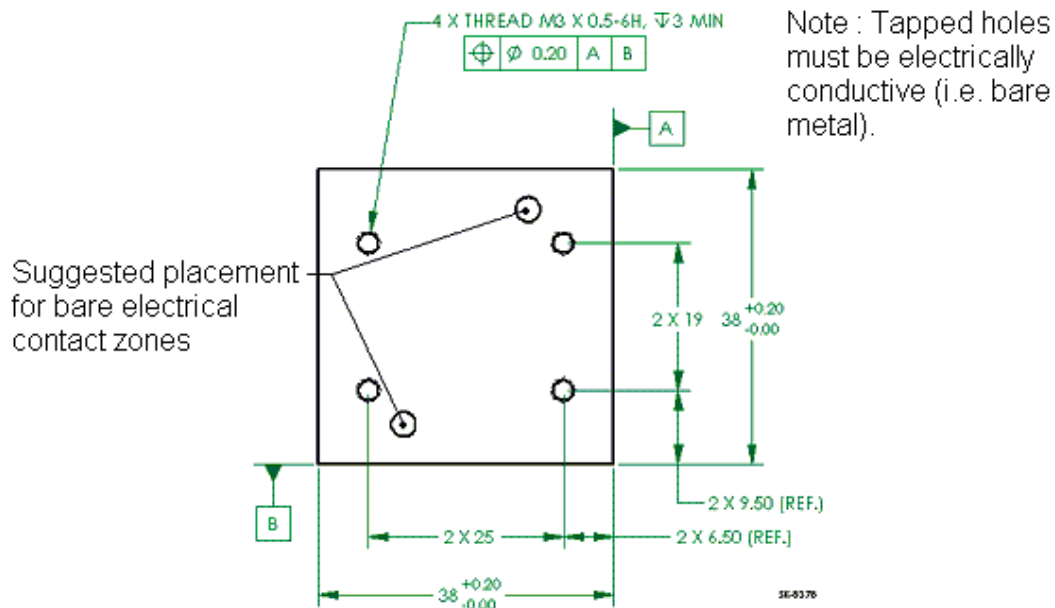

FIG. 1-10 TAPPED HOLE POSITIONS FOR UP12E, WITHOUT PCB
1. Required specifications for customer-supplied back module are given in Fig 1-10 through 1-12. Note that tapped holes must be electrically conductive, and that there has to be at least bare spots to allows electrical contact with detector (see point 5.).
When fitted with an appropriate adaptor, such as Gentec-EO's FC Optical Fiber Connector, the XLP12 can be used to measure the output of an optical fiber. When using an optical fiber adaptor, it is the user's responsibility to ensure that the entire output of the fiber is incident upon the detector's absorbing surface. Figure 1-10 and the following inequation are provided as a guide to verify this.